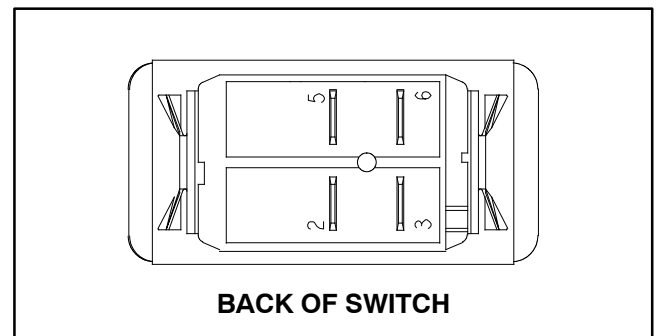

Figure 42
5. With the use of a multimeter (ohms setting), the switch functions may be tested to determine whether continuity exists between the various terminals for each position. The switch terminals are marked as shown in Figure 42. The circuitry of the cruise control switch is shown in the chart below. Verify continuity between switch terminals.